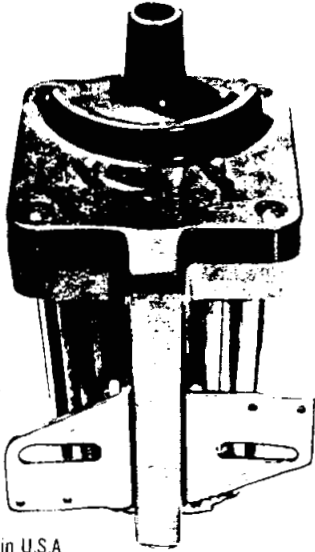

Figure 1
3. Assemble Brackets on the Super Coil as shown in Figure 1. Be sure to use the lock washers included in the package.